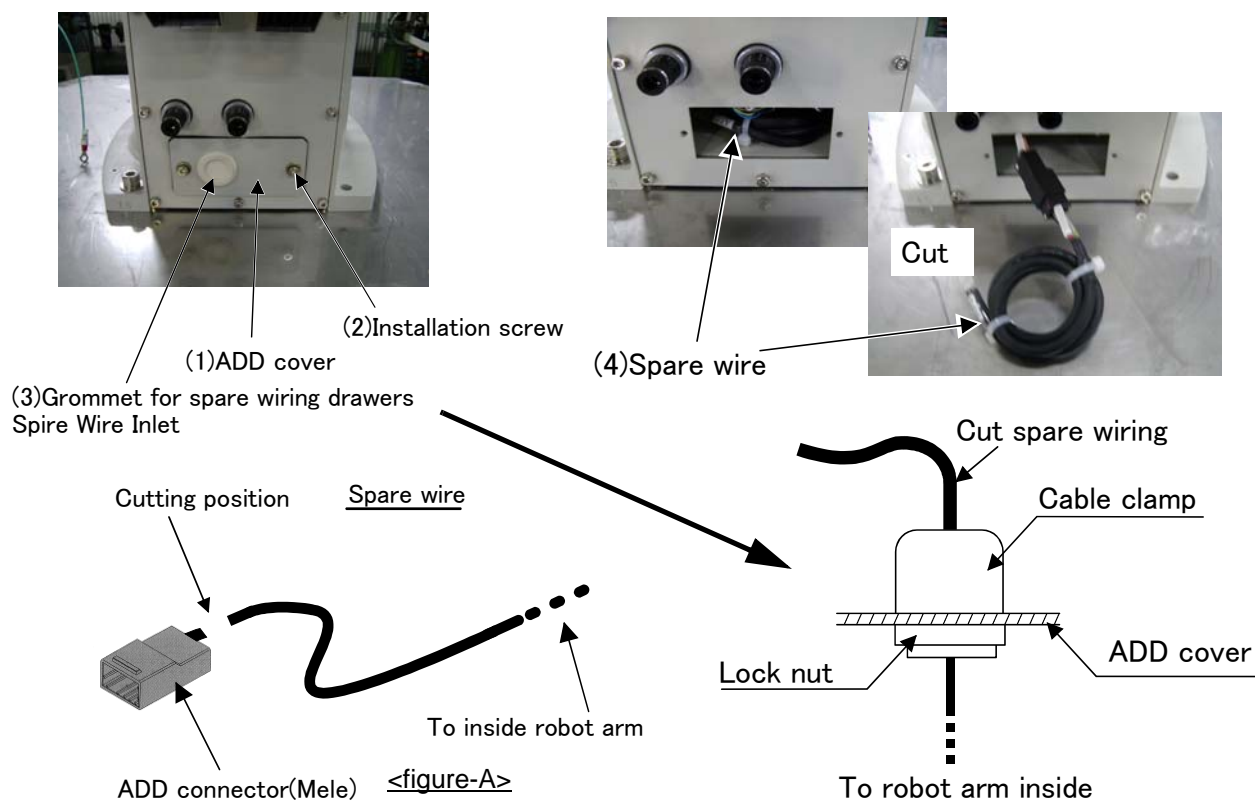

Fig.2-10 : Pull out spare wiring(Base area)
- 2) Remove (1)ADD cover with reference to the "1.3.2 Installing/removing the cover" on page 50.
- 5) Cut spare wiring near the connector (from the connector end to the about 10–20mm. Refer to figure-A in Fig. 2-10)